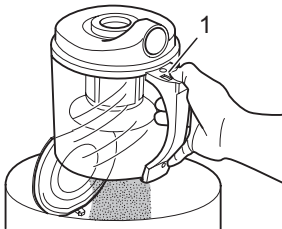

Fig. 17
5. Push the release button (Fig. 17/1). The bottom opens and the dust falls into the dustbin.